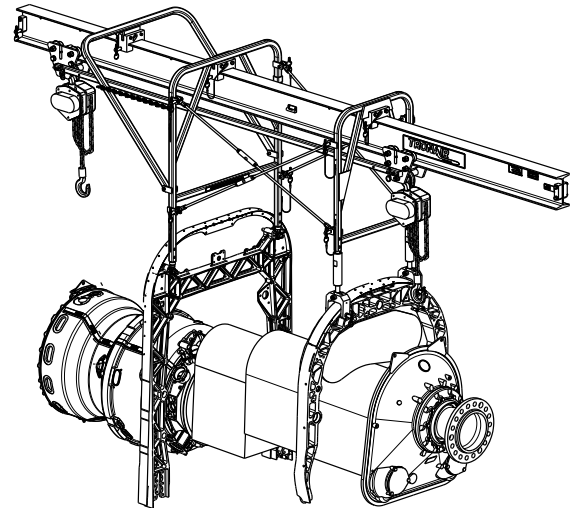

FIGURE 7
13. Install chain falls to the trolleys. **Reference Figure 7.**